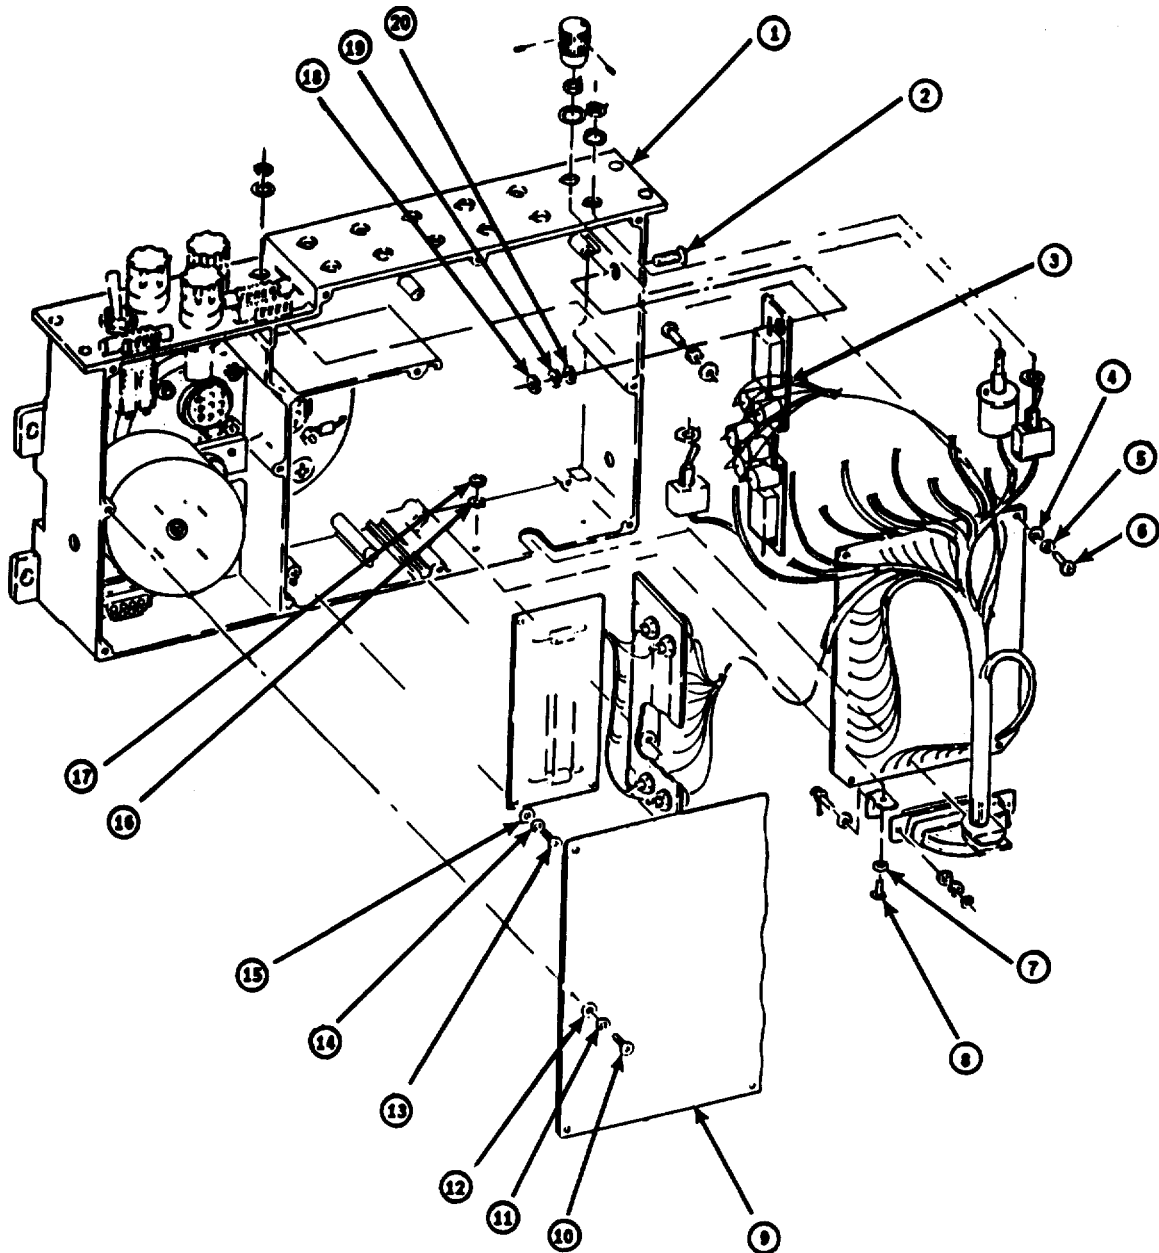

Figure 6-9. INTERFACE ASSEMBLY
**6-21. INTERFACE ASSEMBLY - DISASSEMBLY AND REASSEMBLY (See figure 6-9.)**
- Remove 12 screws (10), lock washers (11), and flat washers (12) securing top cover (9) to interface assembly (1).
- Remove two screws (8), flat washers (7), lock washers (16), and nuts (17) holding connector J2 in place.
- Remove two screws (2), flat washers (20), lock washers (19), and nuts (18).
- Remove TB1 (3).
- Remove four screws (13), lock washers (14), and flat washers (15) securing diode circuit and gently lift out.
- Remove four screws (6), lock washers (5) and flat washers (4) holding RX/TX circuit card in place.